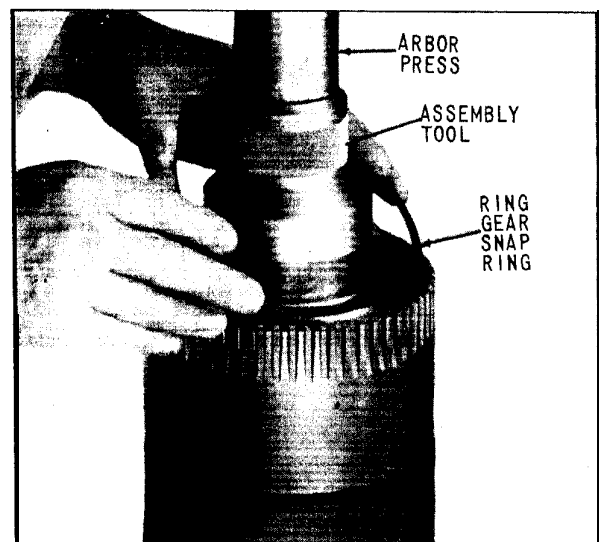

Fig. 43 Installing Ring Gear Snap Ring
30. While maintaining load from arbor press, assemble ring gear snap ring, (Fig. 43). Tap ring while in place to insure full seating of ring in groove.